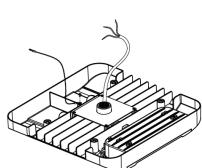

FIGURE 2
(1) Attach one side of the safety rope to the light fixture and the other side to the ceiling to secure the light fixture during installation. (FIGURE 2)